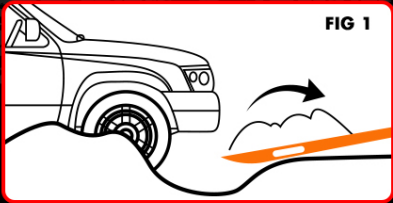

FIG 1
Using a shovel or the traction board (as a shovel) remove the snow, sand or mud from under the vehicle chassis and tires. Ensure the vehicle frame or underside is clear and not supporting the vehicle. (FIG 1)
1. Step 1: Clear the Path (FIG 1)